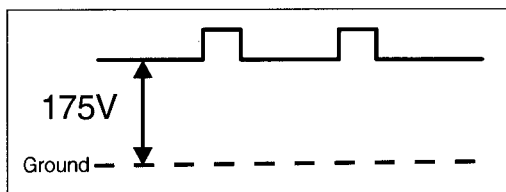

fig 2.7A
3. Adjust the **SCREEN** control on the Flyback Transformer to give a voltage of 175V as shown in figure 2.7A.